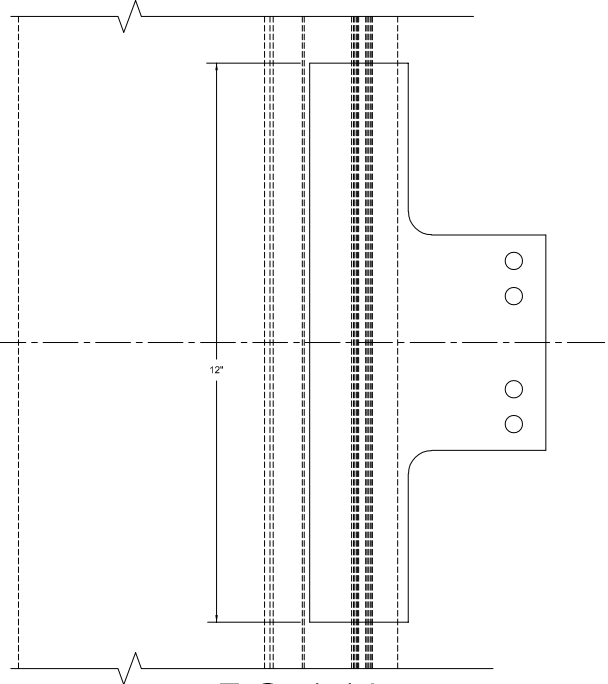

FIG. 1.14
- 1) Find center line of sun shade bracket location. FIG 1.14.